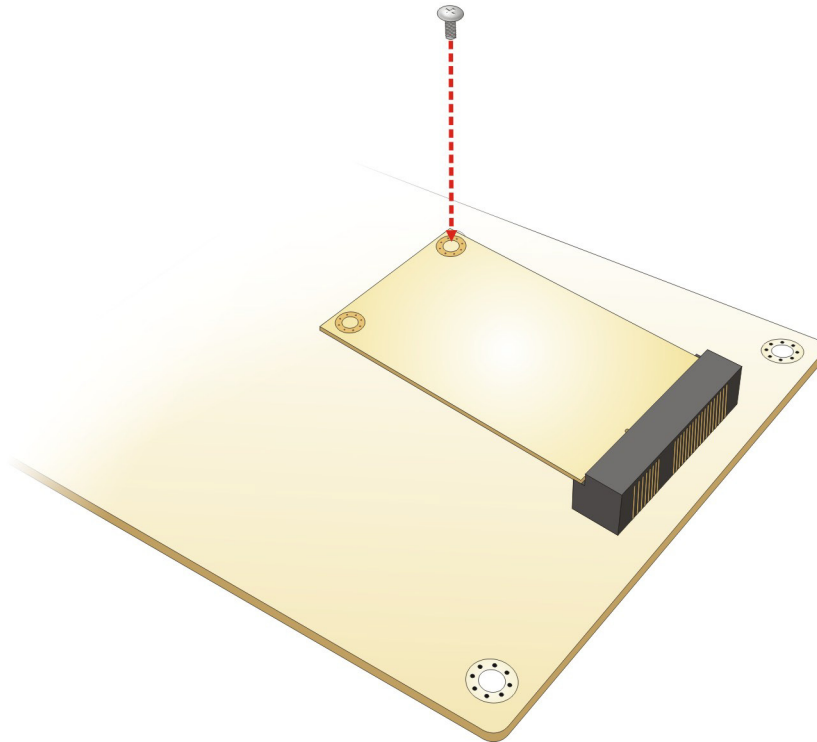

Figure 4-5: Securing the Full-size PCIe Mini Card
Step 5: **Secure the full-size PCIe Mini card.** Secure the full-size PCIe Mini card with the retention screw previously removed (**Figure 4-5**).
Step 4: **Secure the half-size PCIe Mini card.** Secure the full-size PCIe Mini card with the retention screw previously removed (**Figure 4-5**).